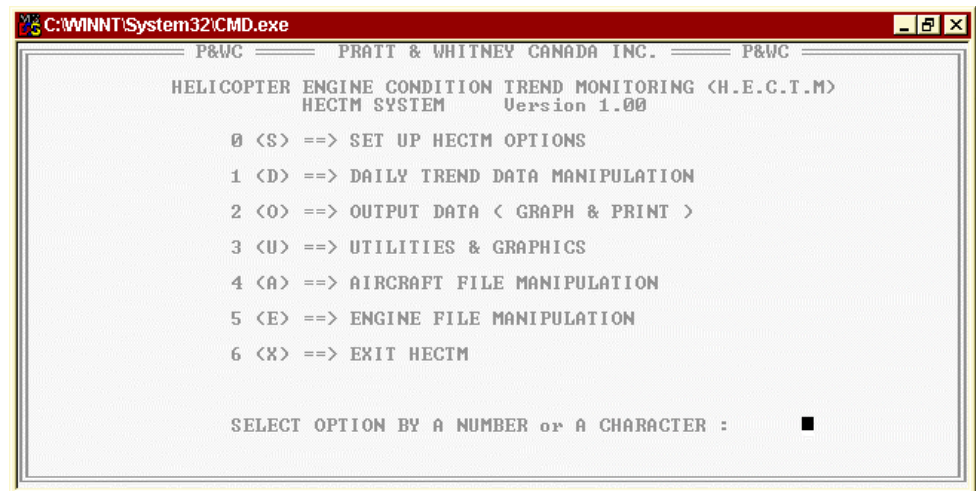

Figure 58. HECTM Application Main Menu Screen
7. Press **OK**. The HECTM™ Menu screen will reappear (refer to Figure 58).